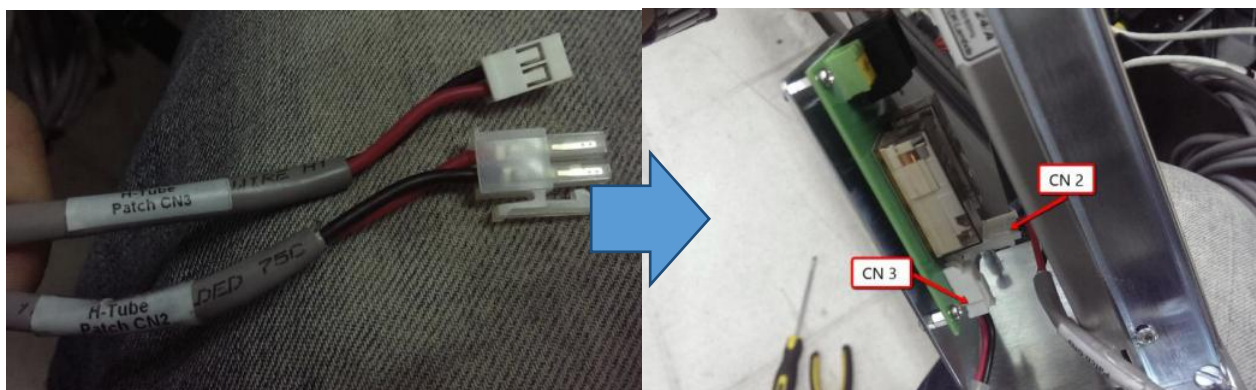

Figure 12 Connector
13. Connect the CN2(4XASC-A087) and CN 3 (4XASC-A089) to 2210-0021 as Figure 12. Caution on the connector type.